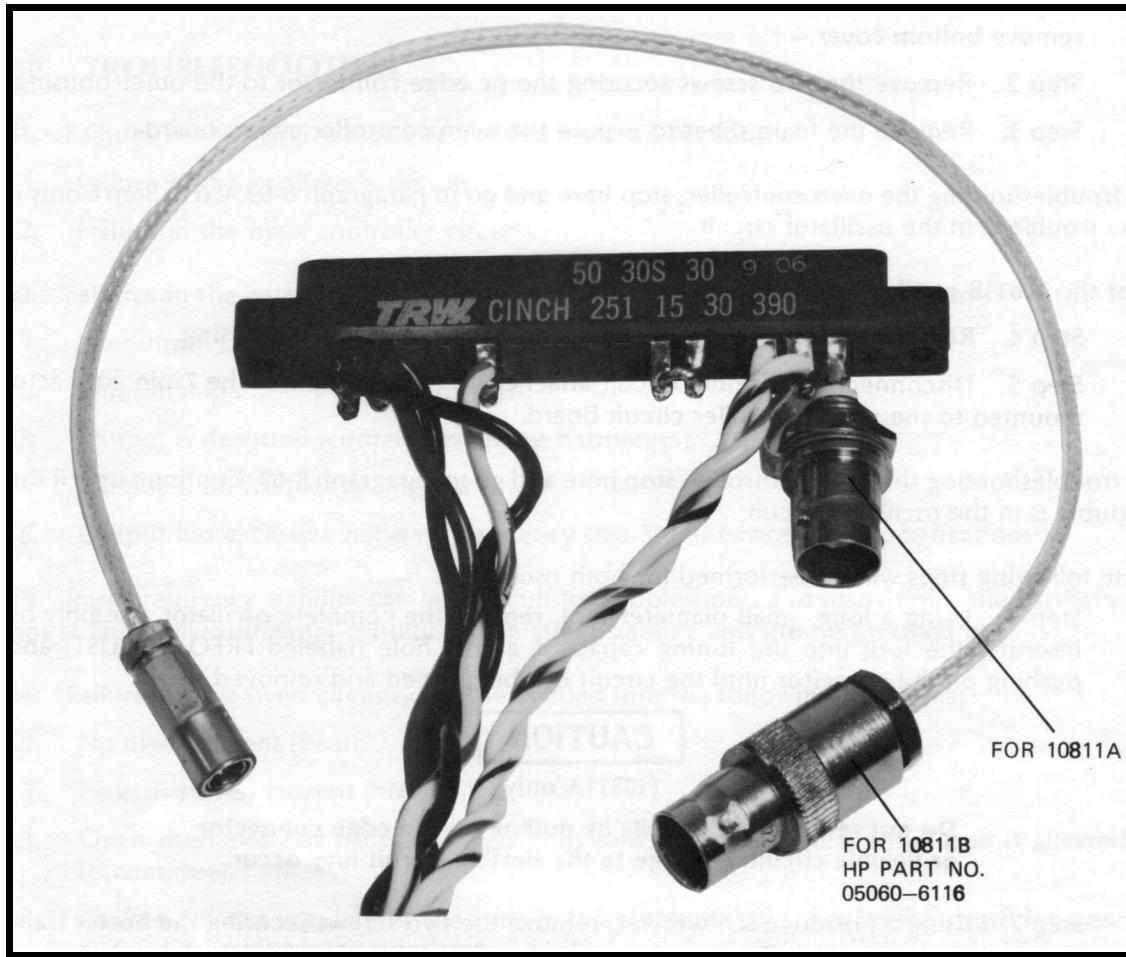

Figure 8-13. 10811A/B Special Test Connector
- 8-62. The following paragraphs describe a special 15-pin connector for use in troubleshooting, alignment and testing of the 10811A. The connector provides the following (See Figure 8-13):
- 8-66. A micon to BNC adaptor cable is available for the 10MHz output signal. Order HP Part Number 05060-6116 (see Figure 8-13).